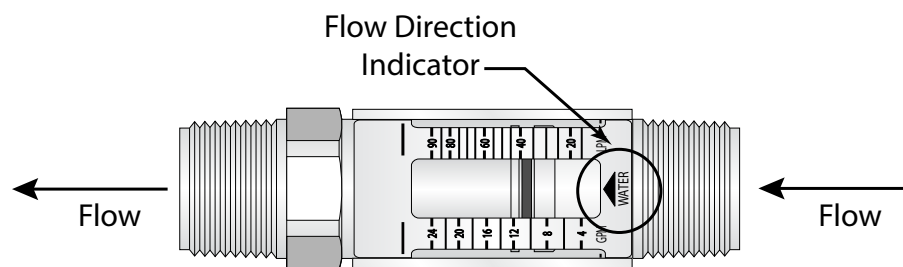

Figure 4: Flow direction indicator
These meters accept flow in one direction. Align the *Flow Arrow*, located on the bottom of the meter's flow scale, in the same direction as the anticipated line flow. See *Figure 4*.
3. Thread the flow meter and coupling onto the inlet pipe and hand tighten. Make sure the flow direction arrow on the flow meter corresponds with the system flow direction. See *Figure 4*.
6. Make sure the flow direction arrow on the flow meter corresponds with the system flow direction. See *Figure 4 on page 9*. Lubricate the union O-ring and connect the union together.
7. Place the flow meter in between the two installed brass fittings. Make sure the flow direction arrow on the flow meter corresponds with the system flow direction. See Figure 4 on page 9. Thread the two brass hex couplers into the flow meter body.
8. Place flow meter between the two installed fittings. Make sure the flow direction arrow on the flow meter corresponds with the system flow direction. See *Figure 4 on page 9*. Thread the two hex couplers onto the flow meter body.
2. Thread the inlet of the flow meter onto the appropriate pipe connection. Make sure the flow direction arrow on the flow meter corresponds with the system flow direction. See *Figure 4 on page 9*.